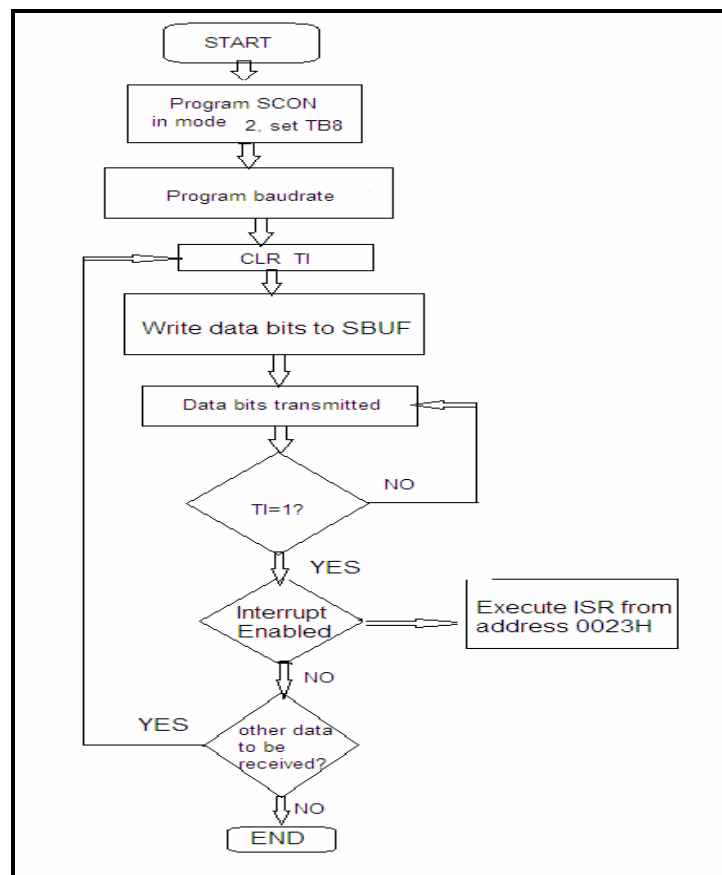

Fig. 2-8-11 Control flow of serial port mode 2 transmission
- (1) Transmit: See Figure 2-8-11.